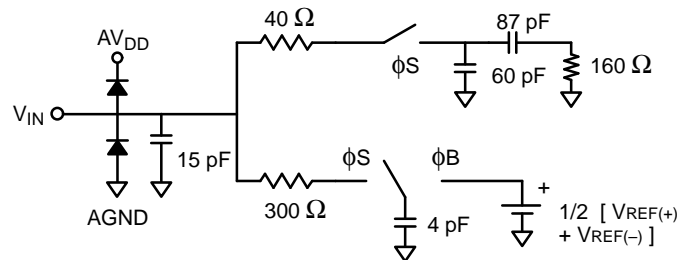

Figure 9. Analog Input Equivalent Circuit
- ³ See V_{IN} input equivalent circuit (see Figure 9.).